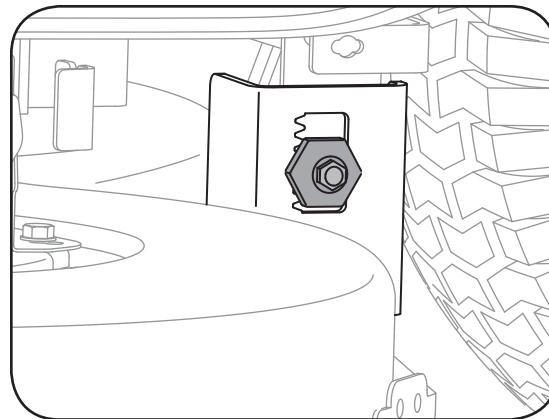

Figure 5-3
3. Loosen, but do NOT remove, the hex cap screw on the left deck hanger bracket. See Figure 5-3.